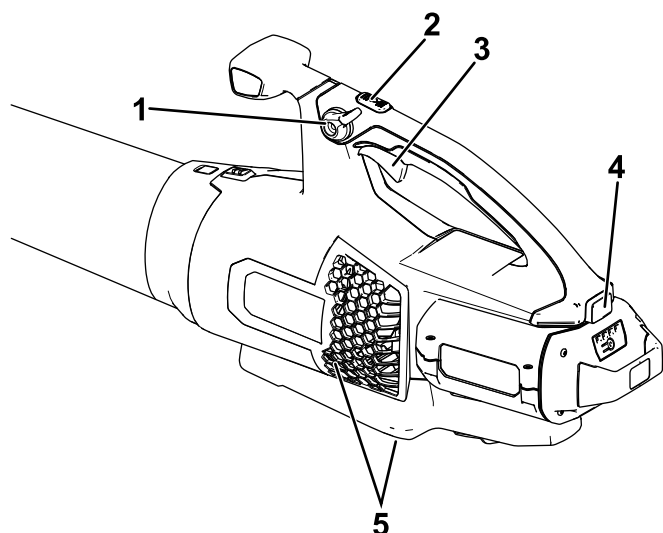

Figure 7
4. To start the blower, squeeze the variable-speed trigger (Figure 7).
Note: Engage the speed lock to keep the machine on without pressing the variable-speed trigger (Figure 7).
To achieve maximum performance (air speed), fully depress the variable-speed trigger, then press and hold the turbo boost button for the desired amount of time (Figure 7).
To adjust the air speed as you blow, use the variable-speed trigger (Figure 7).
To maintain the current air speed, engage the speed lock (Figure 7).
To shut off the blower, disengage the speed lock (if in use) and release the variable-speed trigger (Figure 7).